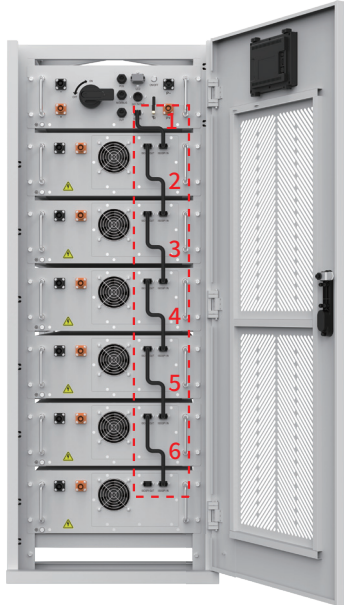

Figure 1
Step 1: Insert the communication line from top to bottom in numerical order as shown in Figure 1.